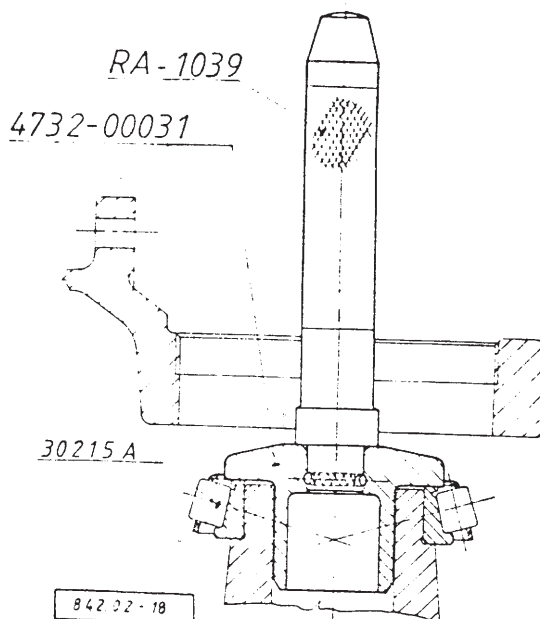

Fig. 2.: DRIVING ON THE TAPER ROLLER BEARING CONE
By means of the tool shown in Fig. 2. tap the differential toward the flanged differential case half (31) so, the outer race of the taper roller bearing (19) shall fall out.
differential case half (24) and by means of the tool shown drive on to bottom out (see Fig. 2.).